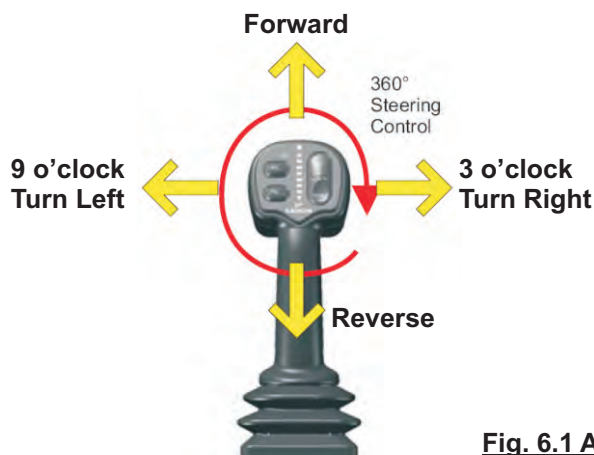

Fig. 6.1 A
- **Forward** - Pushing the joystick straight forward, toward the bow of the vessel, will cause the vessel to move in a forward direction. (See figure 6.1 A)
- For **sharp turns**, push the joystick to the 3 o'clock position to turn to starboard (right) or the 9 o'clock position to turn to the port (left). (See fig. 6.1 A)